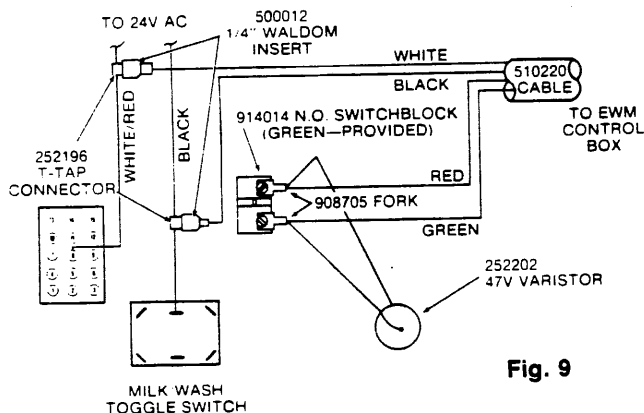

Fig. 9
10. With two 252196 T-Tap Connectors included, secure one to the black wire of the 24V AC power cord and the second to the white/red wire lead from the circuit board. (See Fig. 9)
11. Attach the green and red wires from the 510220 Cable Assembly to the two screw terminals on the 914014 Green Switch Block. Attach the 252202 47V Varistor across the same two terminals as shown in Fig. 9.